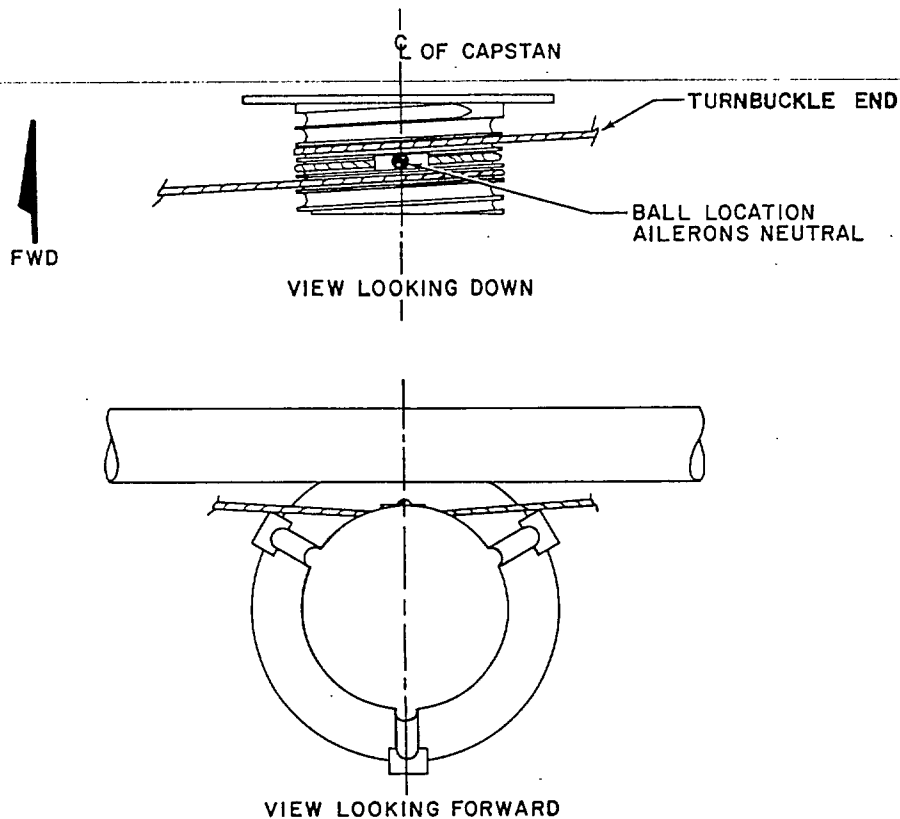

FIGURE 6-C ROLL CAPSTAN WRAP
- K. Reinstall the KS 178 Roll Servo and roll bridle cable as before. Reinstall the cable guards on the roll servo as shown in Figure 6-C. With the ailerons in the neutral position, adjust the roll bridle cable tension to 20 ± 5 lbs. using the turnbuckle. After tensioning install the Locking Clips (090-0217-00) (Item 22) on the turnbuckle. Run the ailerons to the stops in both directions to verify that there is no interference between cables and that the cable runs freely in the proper capstan grooves.